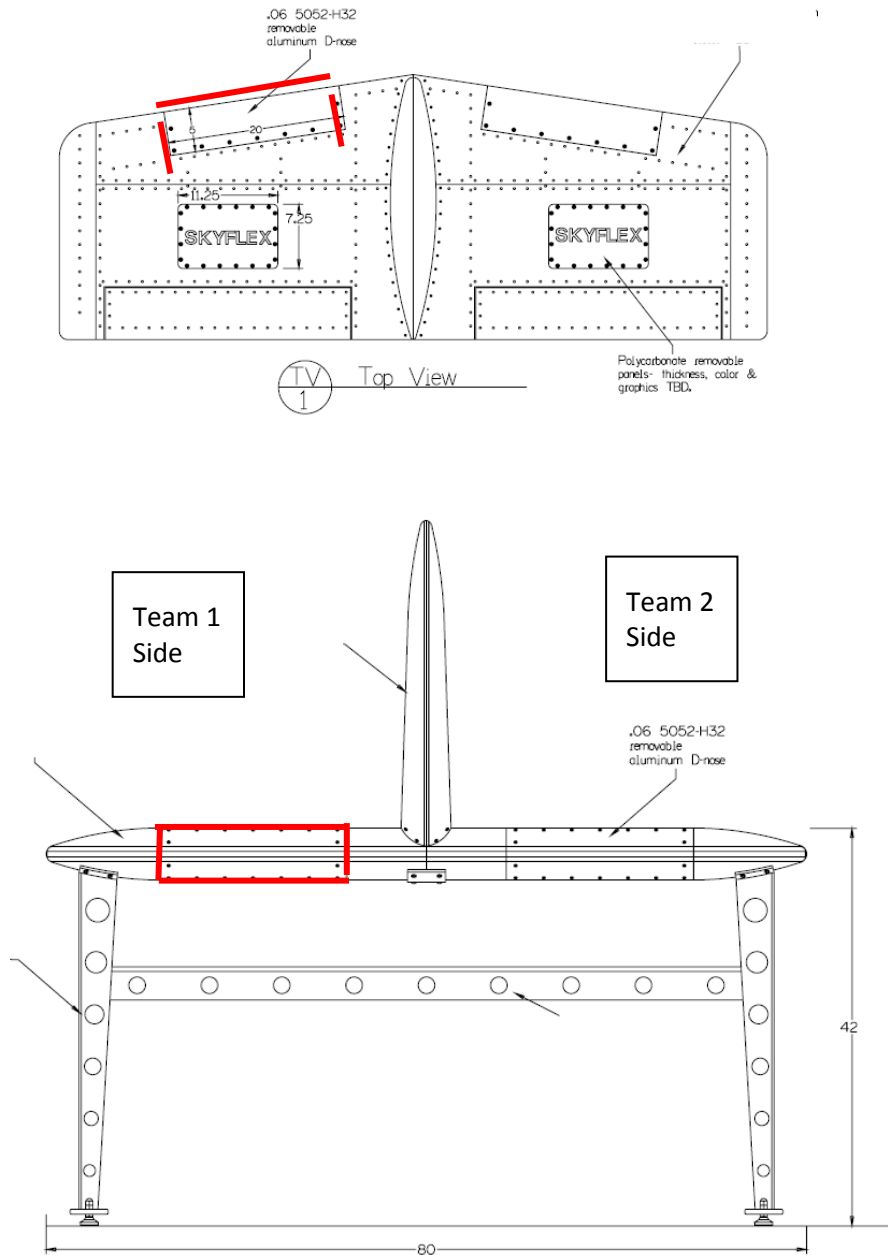

Figure 1 - D-Nose Tape Application Area
- 3) Apply GORE™ SKYFLEX™ Aerospace Tapes on Leading Edge Spar using 4 pieces of tape cut to length with scissors. The first piece should be applied along the top and the second along the bottom. Finally apply two shorter pieces to the radius and ensure 3-5mm overlap on top and bottom pieces – Figure 1.